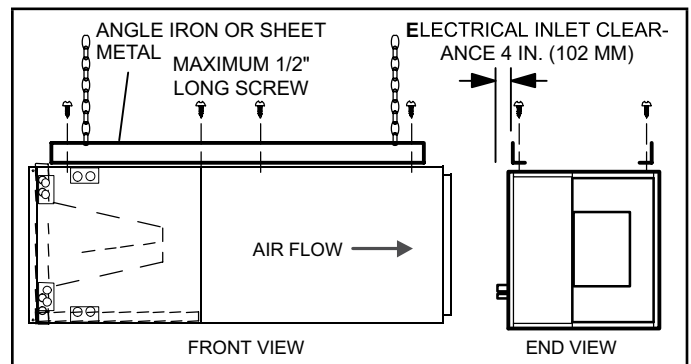

FIGURE 6. Suspending Horizontal Unit
- 5 - If the unit is suspended, the entire length of the cabinet must be supported. If you use a chain or strap, use a piece of angle iron or sheet metal attached to the unit (either above or below) to support the length of the cabinet. Use securing screws no longer than 1/2 inch to avoid damaging the coil or filter. See figure 6. Use sheet metal screws to connect the return and supply air plenums as required.
- 12 - If suspending the unit, it must be supported along the entire length of the cabinet. If using chain or strap, use a piece of angle iron or sheet metal attached to the unit (either above or below) so that the full length of the cabinet is supported. Use securing screws no longer than 1/2" to avoid damage to coil or filter, as illustrated in figure 6. Connect return and supply air plenums as required using sheet metal screws.